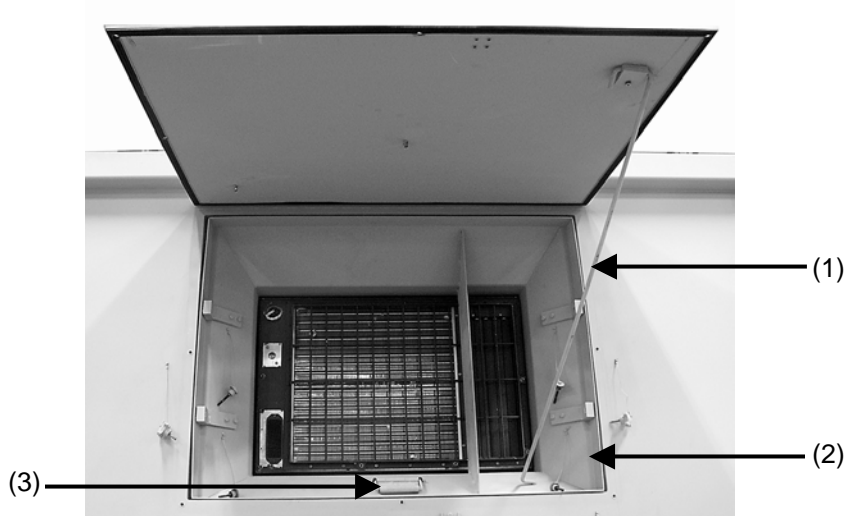

Figure 4-12. ECU panel.
4. Using prop rod (1), prop open ECU panel (Fig.4-12).
5. Unscrew and remove four thumbscrews from shroud (2) (Fig. 4-12).
7. Using handle (3), pull ECU straight out as far as it will go (Fig. 4-12).